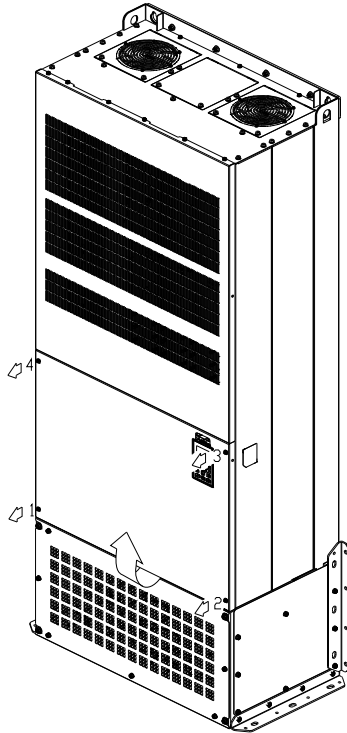

Figure 1
1. Loosen the screw 1~4 and remove the top cover (figure 1).